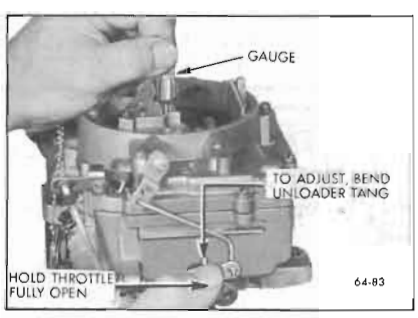

Figure 64-83—Unloader Adjustment
5. Adjust Unloader. Hold throttle wide open and check clearance between upper edge of choke valve and inner wall of air horn using the .215 gauge. Bend unloader tang on throttle shaft lever as required to obtain this clearance using pliers. See Figure 64-83.